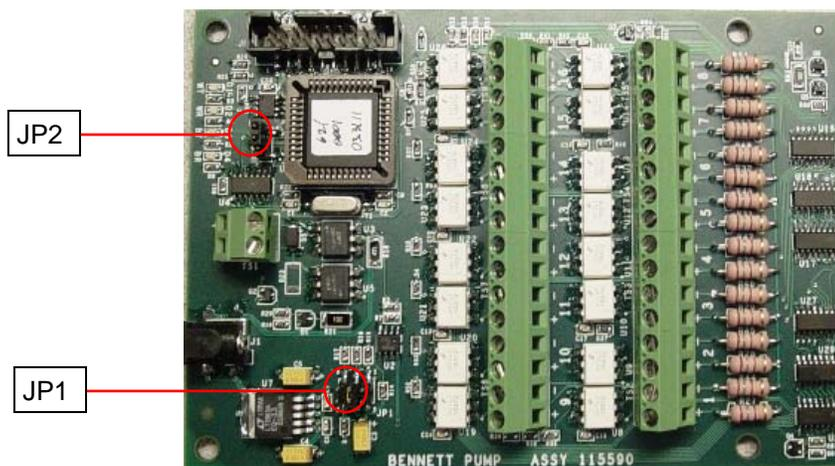

Figure 4
**JP2** See Figure 4.
**JP1** See Figure 4.